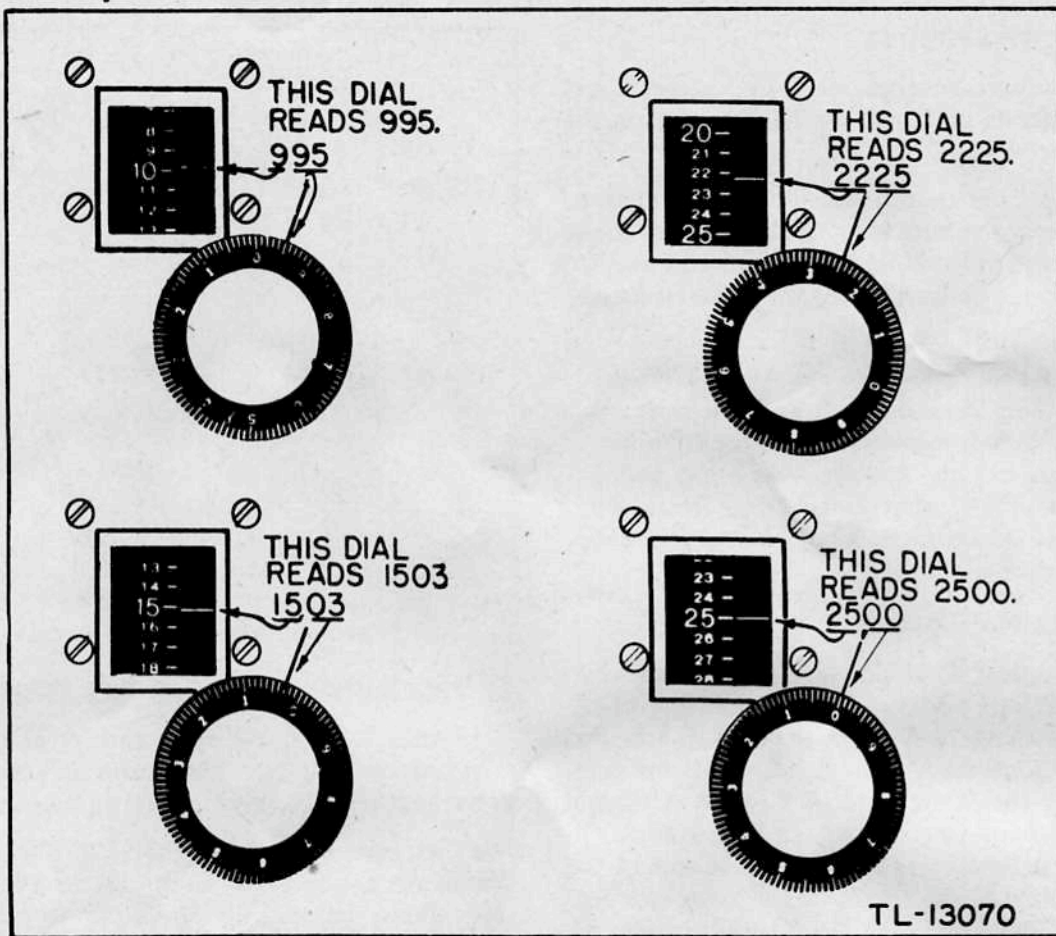

Figure 18. Transmitter dial readings.
**29. TRANSMITTER DIAL READINGS.** Dial settings for the transmitter are read from two dials. The drum dial behind the window reads thousands and hundreds, while the flat disc attached to the FREQUENCY CONTROL knob reads tens and units. Complete dial readings are the combined indications of both dials. Several views of different dial settings with the corresponding dial readings are given in figure 18. A calibration chart attached to the front of the transmitter furnishes exact dial settings for certain frequencies within the tuning range of the transmitter. To obtain unlisted dial settings, proceed as follows: